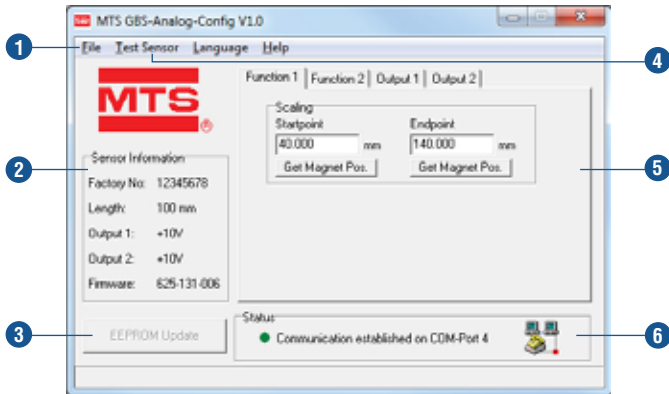

Fig. 37: Example of user interface
After starting the program, the user interface of the connected sensor with its adjustable parameters will open (Fig. 37).
- 1 In the **File** menu the sensor configuration can be saved on hard disk, printed out or loaded into the sensor⁶. Moreover, this menu permits returning to the factory setting (Fig. 37).
- 2 **Sensor Information** contains the invariable sensor parameters, which were read in automatically when connecting the sensor. (Fig. 37).
- 3 Any changes which were made are shown with dark background. By clicking on **EEPROM Update** the altered parameters are stored in the sensor permanently. Subsequently, the stored values are displayed again with a white background (Fig. 37).
- 5 The control tabs of the main display section permit allocation of functions to the sensor outputs. The measuring range of the functions will be determined in **Scaling** (Fig. 37).
- 6 **Status** indicates that the sensor is connected successfully (Fig. 37).